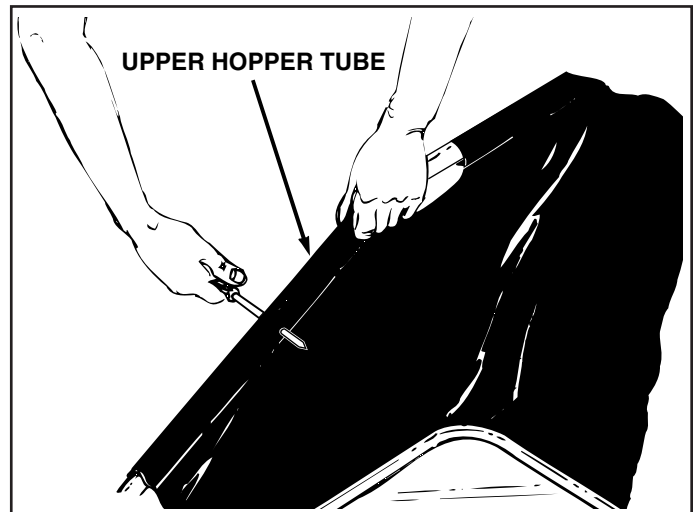

FIGURE 16
- Locate (by touch) the hole in each upper hopper tube. Pierce holes through the stitched bag flaps, aligned with the located holes in both hopper tubes. See figure 16.